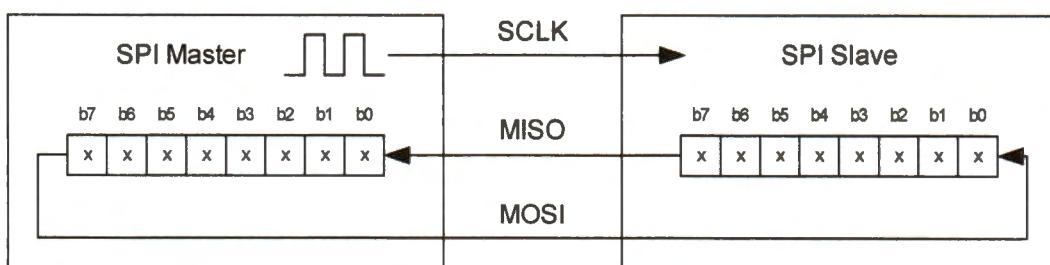

Figure 22-32. A byte is shifted out and in simultaneously via MOSI and MISO.
- When a bit is shifted out on the MISO line from the slave's data register during a clock period, a new data bit is shifted into this register from the MOSI line in the same clock period, as shown in Figure 22-32.
Therefore, when a slave wants to send data to the master via the MISO line, the slave must wait for the clock signal. At the same time, the master must send some dummy data out via the MOSI line to generate the clock signal to initiate the data transfer, as shown in Figure 22-32.